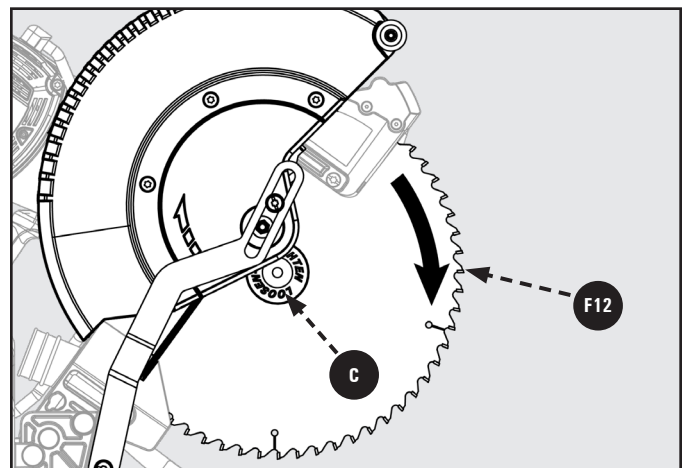

Figure 10
6. Remove **ONLY** the Outer Blade Washer **C** and the Blade **F12**, leaving the Inner Blade Washer on the Spindle. Proceed with carefully removing the blade. See Figure 10.